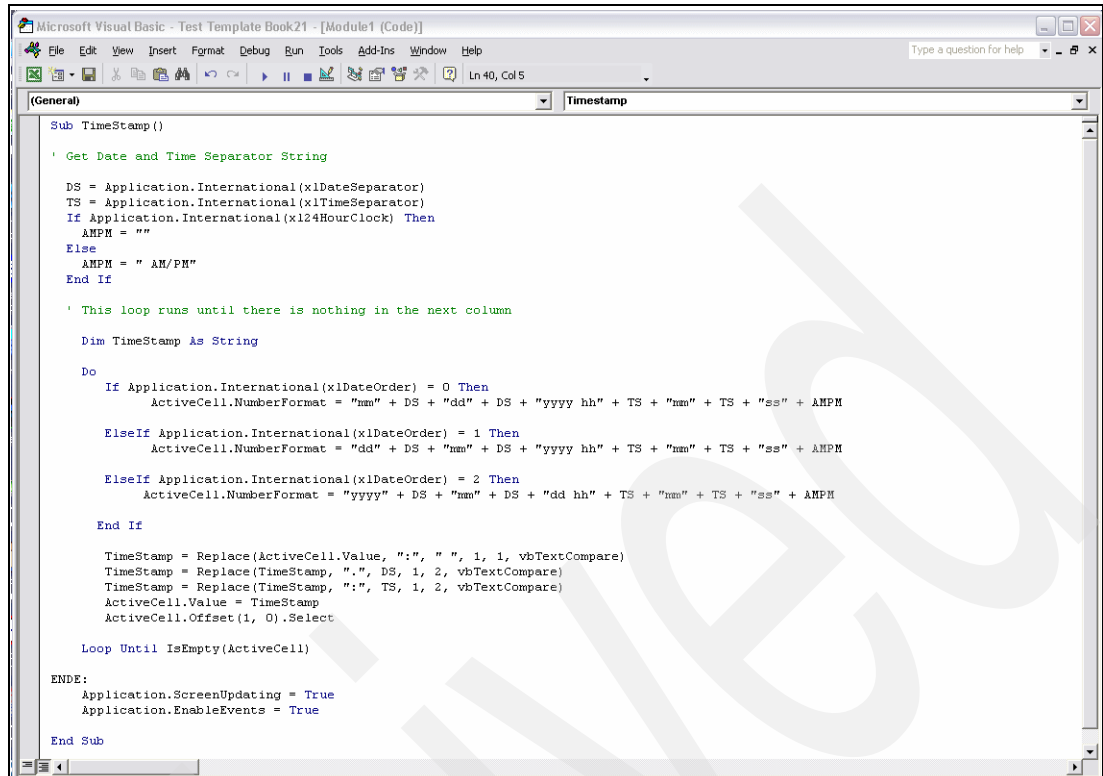

Figure 6-67 Copy Macro code in Visual Basic Editor
3. Copy the code in Example 6-27 on page 290 into the Microsoft Visual Basic editor between the Sub line and the End Sub line (see Figure 6-67 on page 293).